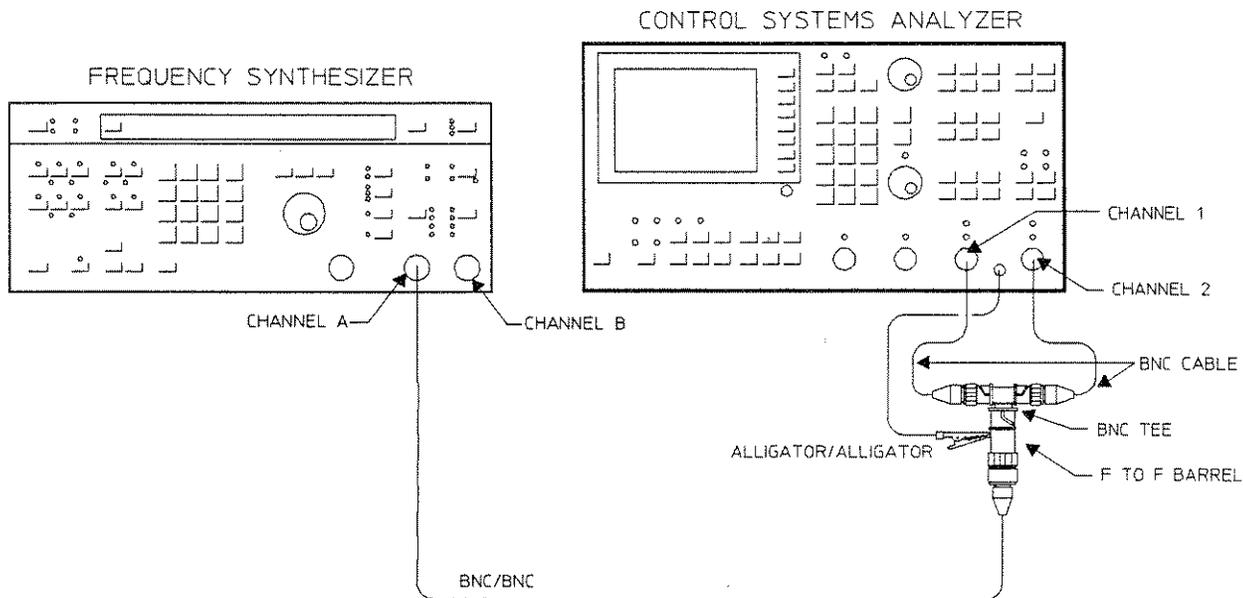

Figure 4-25. Common Mode Rejection Test Setup One
1. Connect the test instruments as shown in Figure 4-25.
4. For each of the frequencies listed in Table 4-19 connect the test instruments as shown in Figure 4-25 and perform steps a through d: